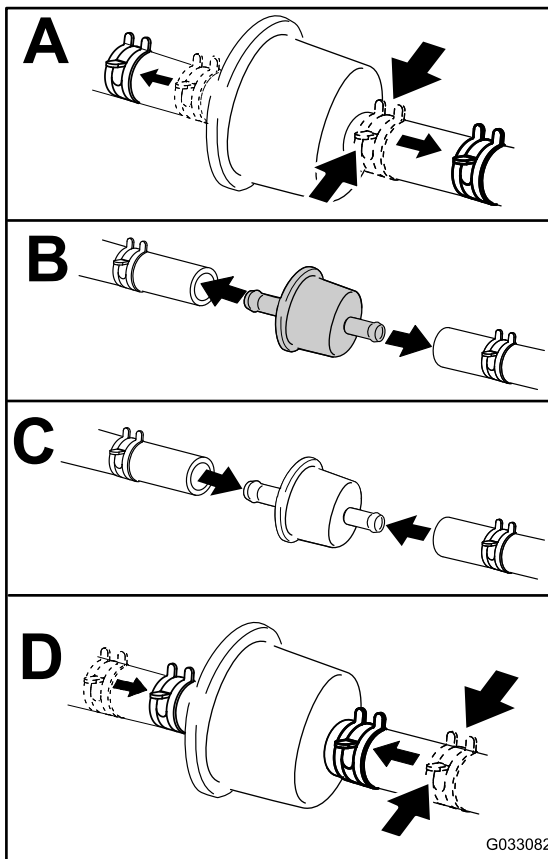

Figure 35
4. Replace the filter as shown in Figure 35.